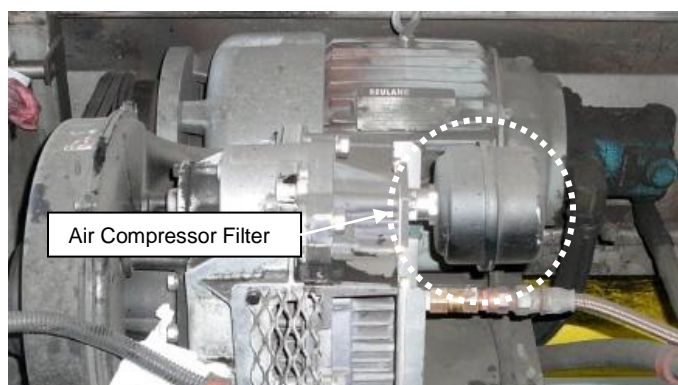
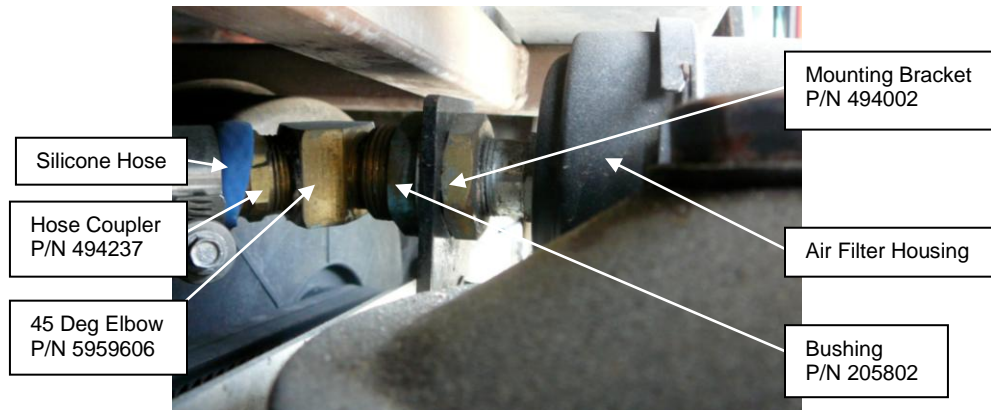

Figure 1: Air Compressor Intake Filter
Figure 2: Brass Fittings & Bracket Attached to the Air Filter Housing.
4. Remove the air filter housing attached to the intake of the compressor. The intake is located on the forward face of the compressor. Figure 1.
5. Attach the mounting bracket NF P/N 494002 , hose coupler NF P/N 494237, 45 degree elbow NF P/N 5959606 and bushing NF P/N 205802 to the air filter housing. Figure 1. Use pipe thread sealant or Teflon tape on all NPT threaded connections. Ensure that the mounting bracket and air intake face downward at 6 o'clock. Figure 2.
6. Attach one end of the blue silicone hose NF P/N 023941 to the hose barb on the air filter housing using hose clamp NF P/N 274935. Figure 1. Torque hose clamp to 56-62 IN-LBS.